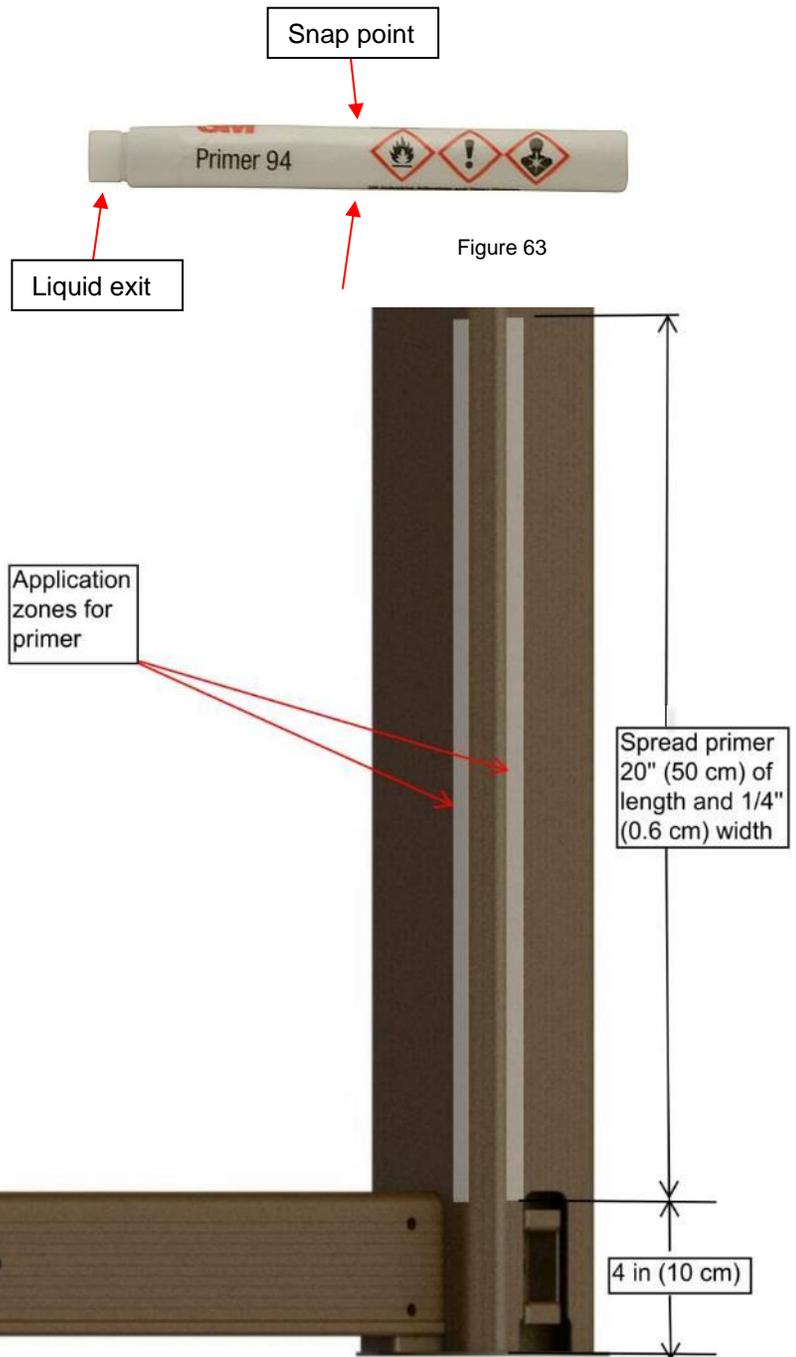

Figure 63
- 9) Apply the primer on the inside corner at the indicated areas. Refer to Figure 64 and Figure 65. The wire guard can also be held in place and taped off around its perimeter to mark off the application area. **Important:** Failure to apply the primer will result in the wire guard unsticking over a short period of time. The primer will act as the optimal bonding agent for the paint. To use the primer, snap the bottle in the middle for the liquid to come out. (Figure 63)